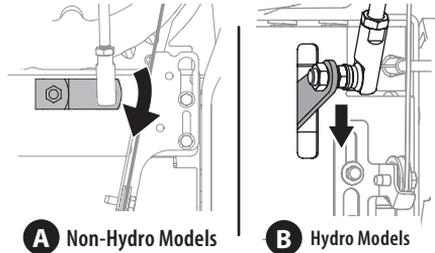

Figure 33
3. Make sure the shift lever on the back of the transmission is rotated downward to the full extent of its rotation see Figure 33, Detail "A" for models without hydro transmission or Detail "B" for models with hydro transmission.